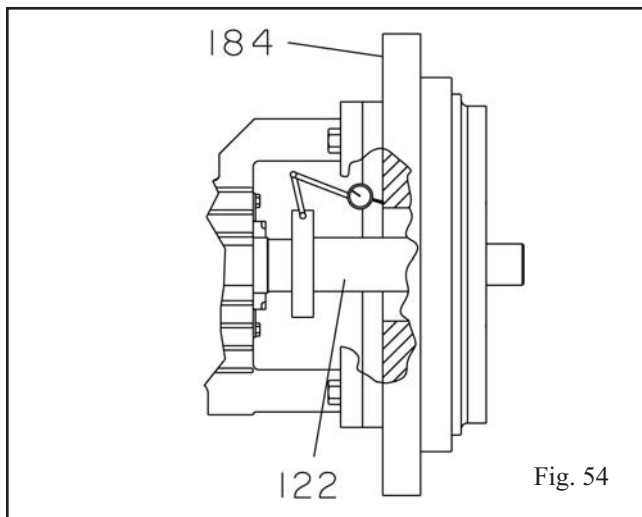

Fig. 54
- a. Mount dial indicator on shaft (122) as shown in Fig. 54.
- b. Rotate shaft (122) so indicator rides along the seal chamber face for 360 degrees. If total indicator reading is greater than the values shown in Table 7, determine cause and correct.